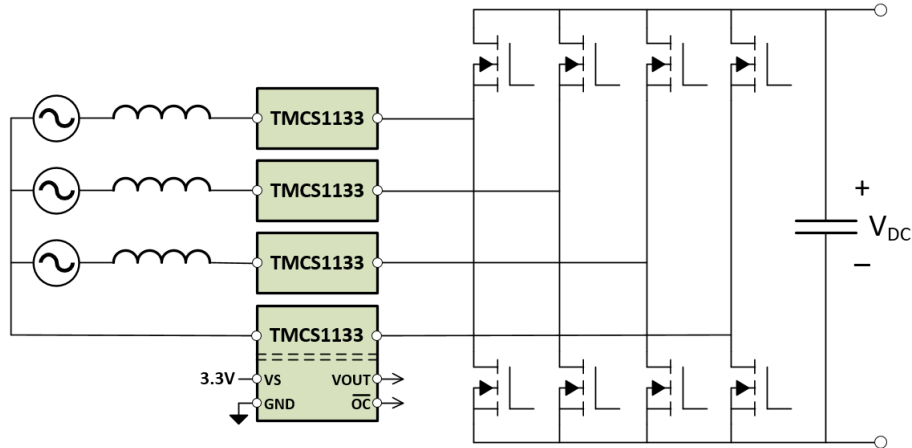

Figure 9-2. AC to DC Converter Current Sensing
In many applications, power must be converted from AC sources for use in DC circuitry. Some type of controlled power factor correction (PFC) stage is typically needed to improve power transfer efficiency. Faster and faster power switches are being used in modern PFC stages to reduce overall size and to improve power transfer efficiency. Often, the PFC stage of AC to DC converters is connected directly to AC power grids. A primary challenge to sensing in PFC stages is that the current sensor is subjected to large voltage spikes coming from the high-voltage (HV) power grid along with large transients coming from high speed power switches during charge transfer. Inherent isolation in the TMCS1133 construction helps overcome these challenges by providing high levels of isolation between the HV current sensing nodes and low-voltage control circuitry, with high common-mode transient immunity (CMTI). Figure 9-2 shows the use of the TMCS1133 measuring phase currents in a common AC to DC converter stage.